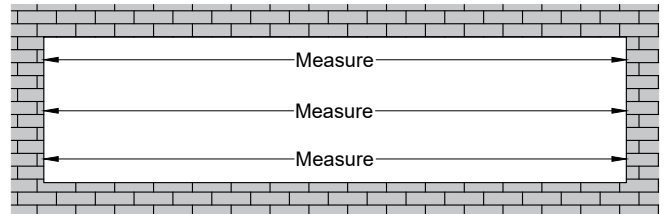

FIG. 2.
- B. Measure the width of the opening at the top, middle, and bottom. Select the smallest of these dimensions and subtract the left and right caulk joint width per approved shop drawings ($\frac{1}{4}$ "(6.3mm) min caulk joint at each jamb). **SEE Fig. 2.**